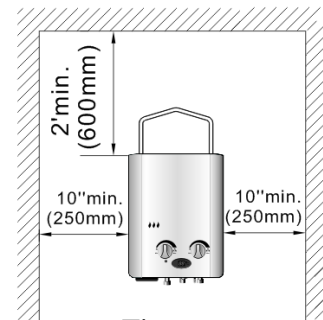

Fig.6
- Make sure to keep the safety distance according to Fig. 6 and Fig. 7 when installing the heater, and keep away from the flammable materials.